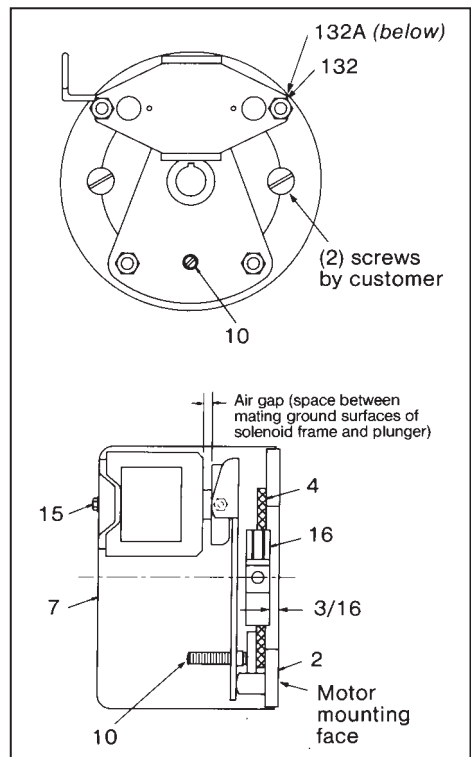

Figure 1: 48,000 Series style
If air gap exceeds $\frac{1}{8}$ ", adjustment should be made. See Figure 1.
9. Replace housing (7) and housing screws (15).
Note: If solenoid buzz is noted, remove housing and readjust frame alignment by a slight repositioning of solenoid mounting nuts (right hand) (132) and (132A). Check that plunger is in center of frame. Recheck air gap. If adjustment is necessary, see Step 8 and Figure 1. Replace housing and screws.